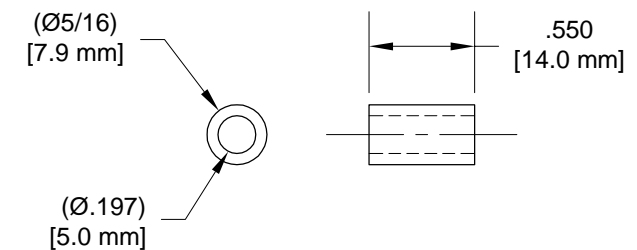

FIGURE 6: FABRICATING FF-00093
Step 5: Fabricate two FF-00093 from AT6-058X5/16 per Figure 6 dimensions.